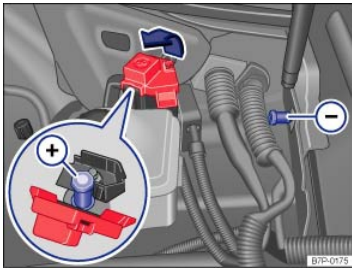

Fig. 111 Connection points in the engine compartment for the collapsible spare tire compressor.
- Connect the compressor with the 12 Volt clips **only** to the jump-start terminals in the engine compartment ⇒ Jump-starting. The red clip on the compressor cable is connected to the positive terminal ⊕; the black clip is connected to the negative terminal ⊖ ⇒ Fig. 111.